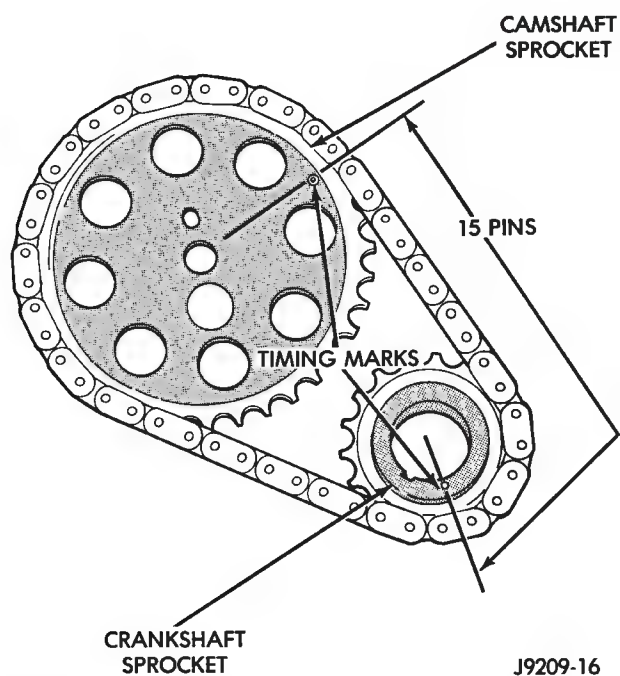

Fig. 11 Verify Crankshaft—Camshaft Installation—Typical
- (5) To verify correct installation of the timing chain, turn the crankshaft to position the camshaft sprocket timing mark as shown in Fig. 11. Count the number of chain pins between the timing marks of both sprockets. There must be 15 pins.
- (6) Install the crankshaft oil slinger.
- (7) Tighten the camshaft sprocket preload bolt to 108 N·m (80 ft. lbs.) torque.
- (8) Check the valve timing.
- (9) Lubricate the tension spring, the thrust pin and the pin bore in the preload bolt with Mopar Engine Oil Supplement, or equivalent. Install the spring and thrust pin in the preload bolt head.
- (10) Coat both sides of the replacement timing case cover gasket with gasket sealer. Apply a 3 mm (1/8 inch) bead of Mopar Silicone Rubber Adhesive Sealant, or equivalent to the joint formed at the oil pan and cylinder block.
- (11) Position the timing case cover on the oil pan gasket and the cylinder block.